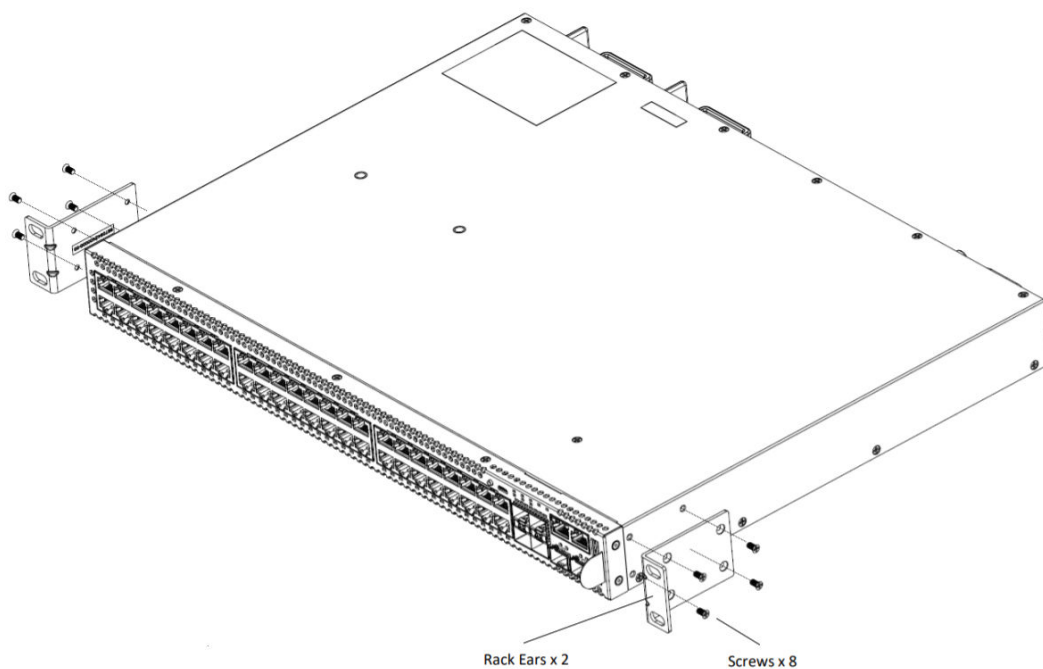

Figure 46: Front Mount: Attaching Short Mounting Brackets
- Figure 46 shows a front-mount configuration using a short mounting bracket.